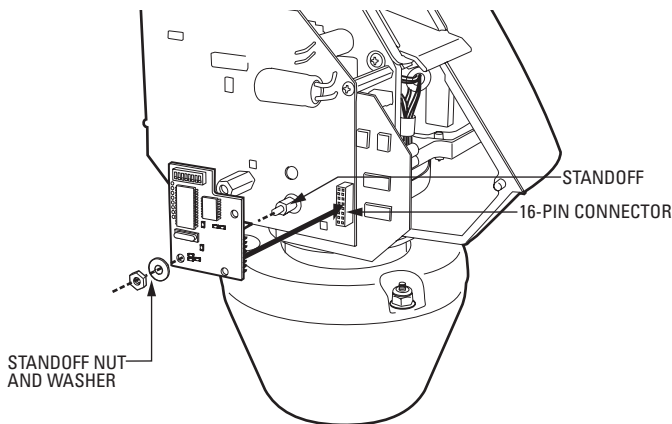

Figure 3. Installing the TXB-B into the Esprit
7. Install the TXB-B on the Esprit circuit board (refer to Figure 3):